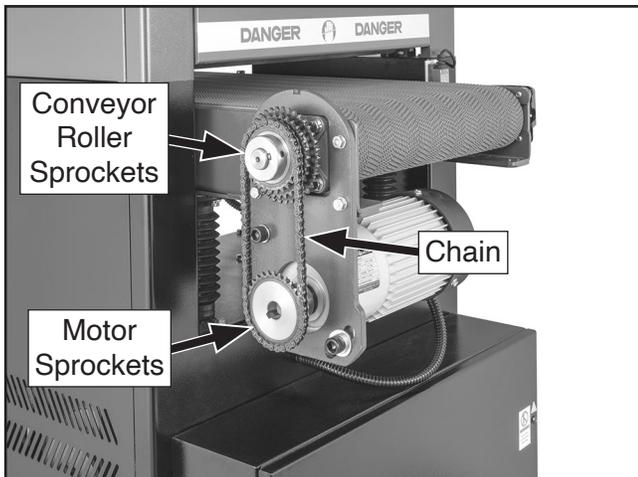

Figure 60. Example of exposed conveyor belt chain and sprockets.
3. Use shop rag and mineral spirits to remove old lubricant and built-up grime from chain and sprockets (see **Figure 60**).